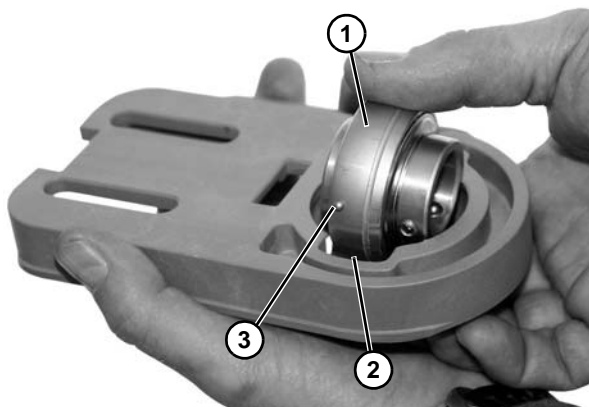

Figure 111
3. Turn bearing (**Figure 111, item 1**) to align with slots (**Figure 111, item 2**) in bearing housing. Then remove bearing.
5. Insert bearing (**Figure 111, item 1**) into housing slot. Locate anti-rotation nub (**Figure 111, item 3**) to align with slot (**Figure 111, item 2**) and twist bearing into housing.